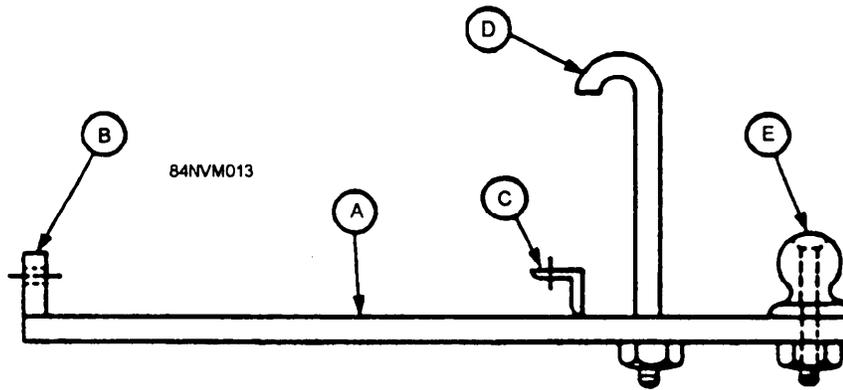

Figure 13-13.—Assembly print.
**ASSEMBLY PRINTS.**—An assembly print (fig. 13-13) shows a unit either completely assembled or unassembled, usually without dimensions. One or more views of the assembled unit may be provided. Letters or numbers are used to identify parts on the print that correspond to various detailed drawings. Sectional views are generally used to show the assembled units. Exploded views show the exact location of each part and the sequence of assembly.